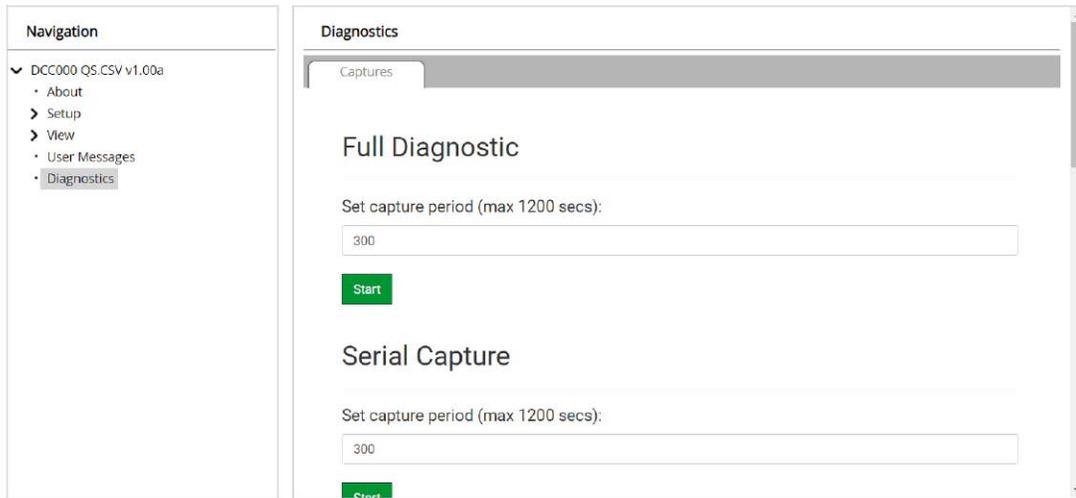

Figure 23. Diagnostic Capture Screen
- From the FS-GUI landing page, click on “Setup” to expand the navigation tree and then select “Network Settings” to access the IP Settings menu. (Figure 23)
Open the FieldServer Toolbox software and click the diagnose icon  of the desired device (Figure 23).